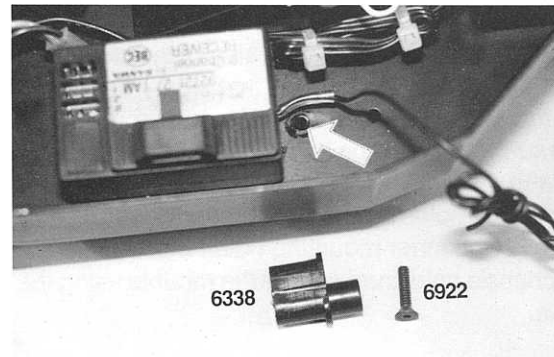

Fig. 146
The following assembly only applies to the BUSHING KITS. If you have a BALL BEARING KIT you will NOT have a bag #8-13 and you can then skip forward in the manual to fig. 146.
□ **Figs. 146, 147 & 148** 1) We are now ready to install the radio receiver. We want to install the receiver on the right or passenger side of the chassis. In the master kit bag you will find a small 1 1/2" x 6" strip of servo tape (double stick tape). 2) Cut a piece to fit the bottom of your receiver, peel one side, and apply it to the bottom of the receiver case. Each receiver is slightly different, so mount it so that the antenna will be away from any other wires as much as is possible.